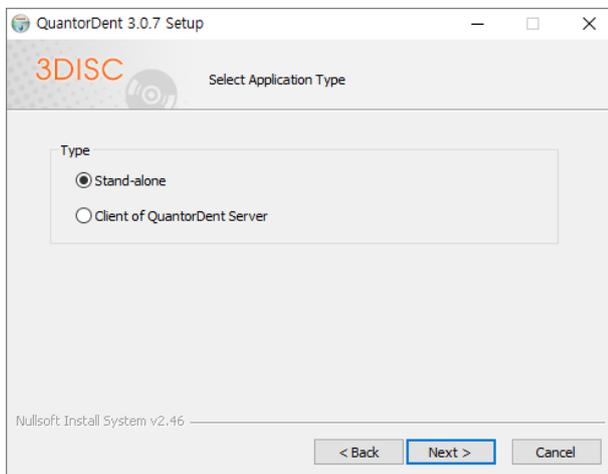

Figure 2.4 Application Type Dialog Box
9. As shown in Figure 2.4, select the application type and click the "Next" button.